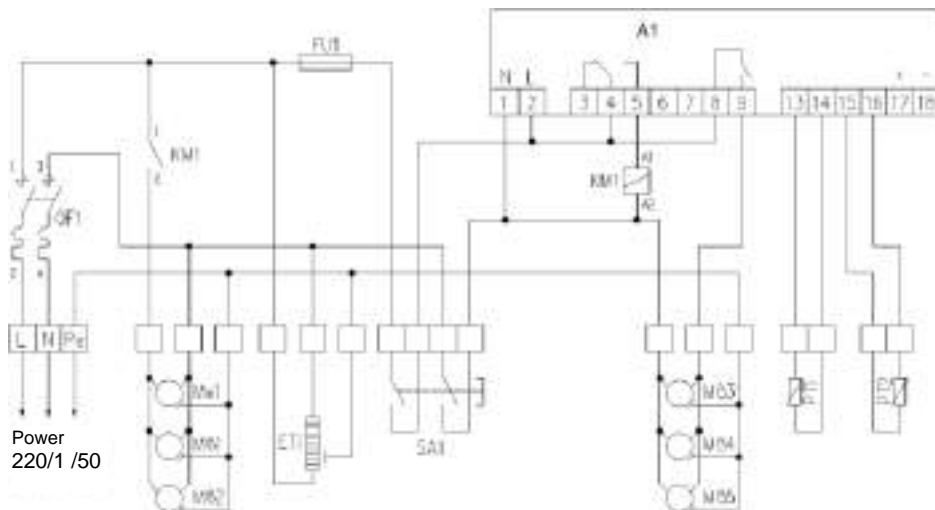

Fig. 3. Wiring diagram of BC68-1250 island refrigerated display cases
6.6 The wiring diagram is provided in Figure 3.
Figure 3 legend: